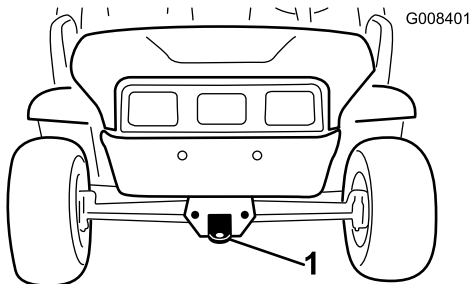
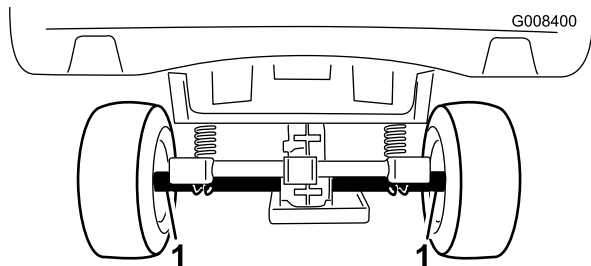

Figure 21
Figure 22
Use a trailer with full-width ramps to move the machine a long distance. Make sure that the machine is securely bound to the trailer. Refer to Figure 21 and Figure 22 for the location of the tie-down points on the machine.
2. Affix a tow line to the tongue at the front of the machine's frame (Figure 21).